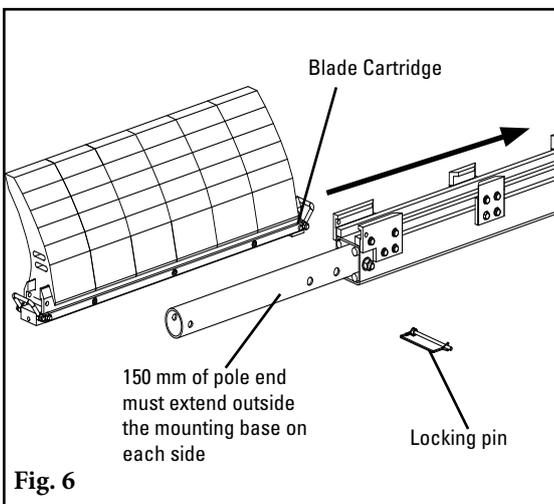

Fig. 6
6. **Install the blade cartridge.** Slide the blade cartridge into the centre pole. Lock the cartridge into place with the two locking pins (Fig. 6). NOTE: Be sure at least 150 mm of the extender pole extends out of the mounting base on each side for tensioner installation. Adjust the extender poles in the centre pole if more or less length is needed.